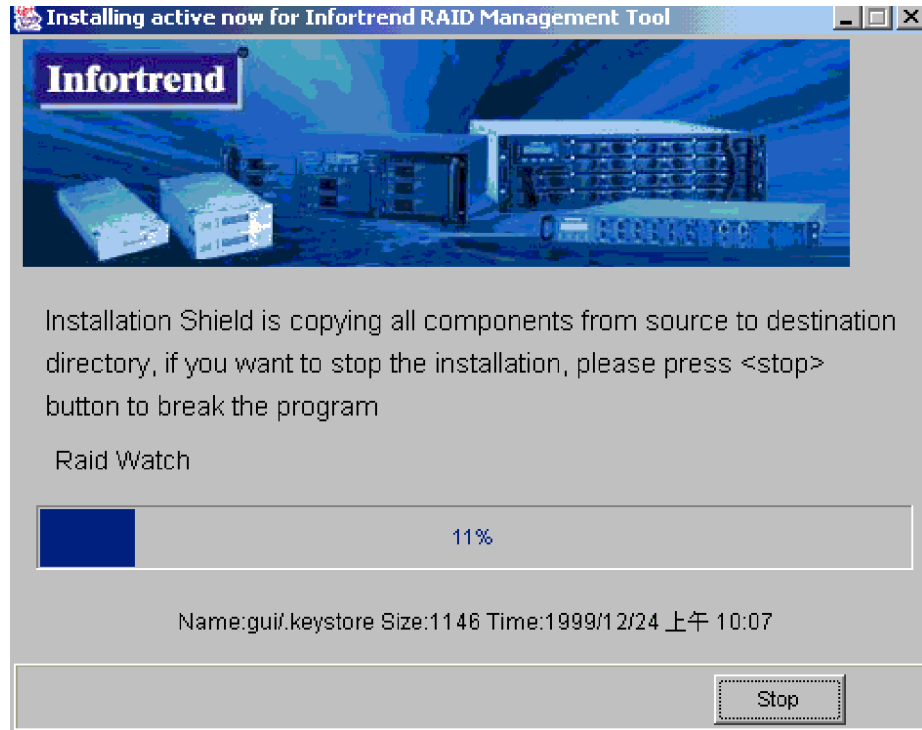
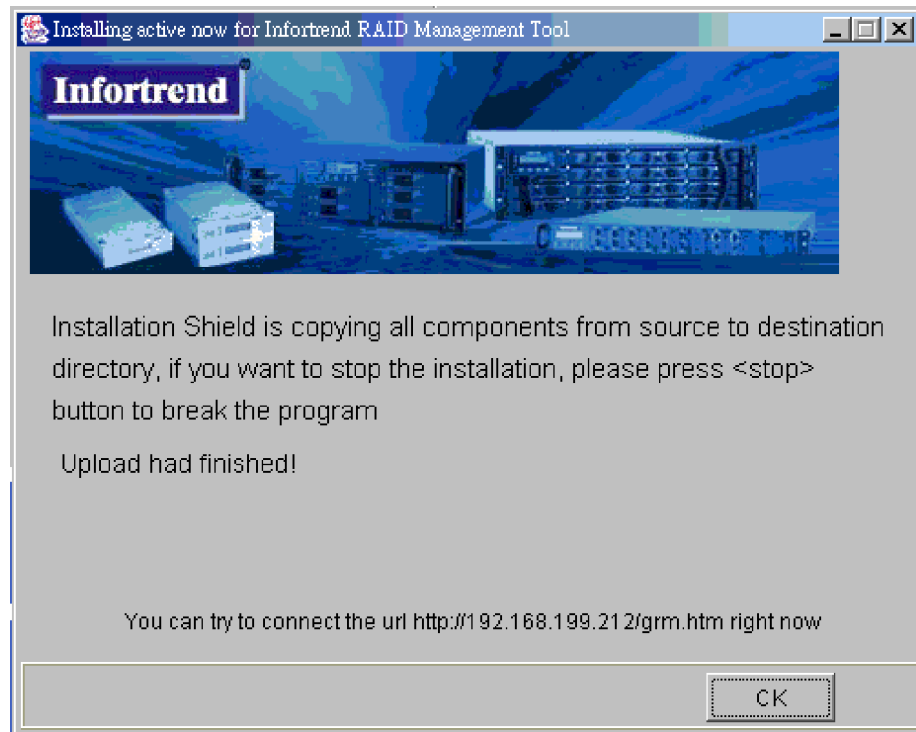

Figure 2-11: Installing Active
Figure 2-12: Successful Installation
- Step 8.** If the “*Next*” button from *Figure 2-11* was selected, the Install Active window shown in *Figure 2-12* will appear. If you wish to stop the installation procedure, then click the “Stop” button. If you wish to continue installing the Applet components, allow the installation shield to continue through the rest of the procedure.
- Step 9.** Once the Applet components have been successfully installed, a window indicating the successful installation, shown in *Figure 2-12*, will appear. To complete the process and to make the window disappear, click on the “OK” button.